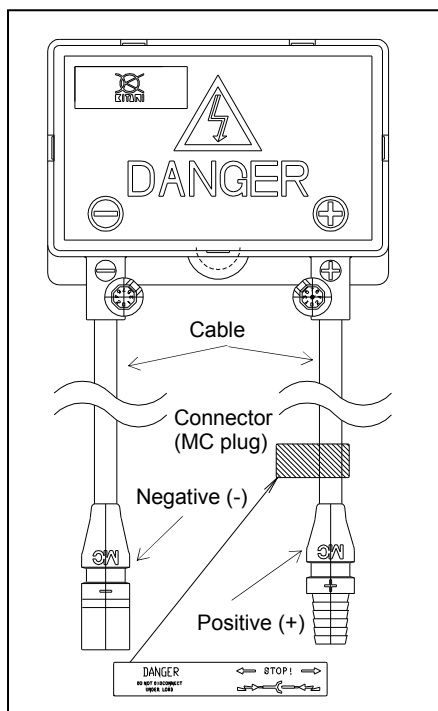

Figure 3: Configuration of Junction Box
- One terminal is dedicated to each polarity (with the polarity symbols engraved onto the body of the junction box) (see Figure 3).